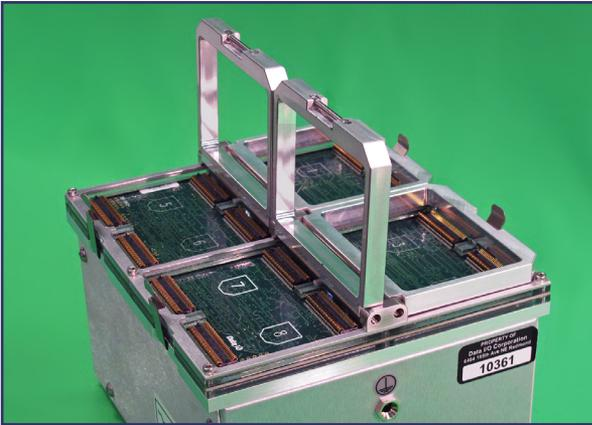

Figure 2: Two socket clamps are open.
- 1-4. Rotate the Socket Adapter so the chamfered (angled) corners match the diagram on the circuit board; refer to Figure 2 & Figure 4. Position all locations in the same orientation.